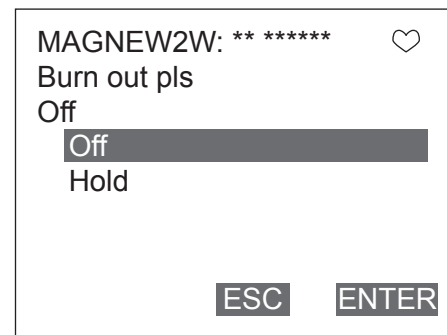

Figure 7-39
Figure 7-39 will then be displayed.
2. Once the display as shown in Figure 7-39 appears, move the arrow key up or down to select Off or Hold. After making a selection, press F4 (ENTER). If F3 (ESC) is pressed here, the selection will be canceled and the display will return to the Pulse output menu.